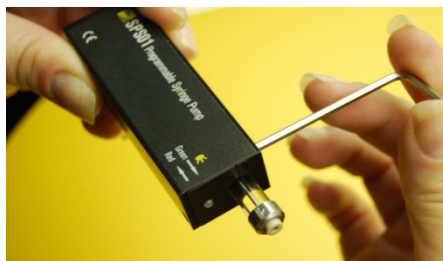

Figure 39. Loosen the Retaining Screw.
6. Using the supplied hex wrench, loosen the screw located on the top side of the syringe (*Figure 39*).